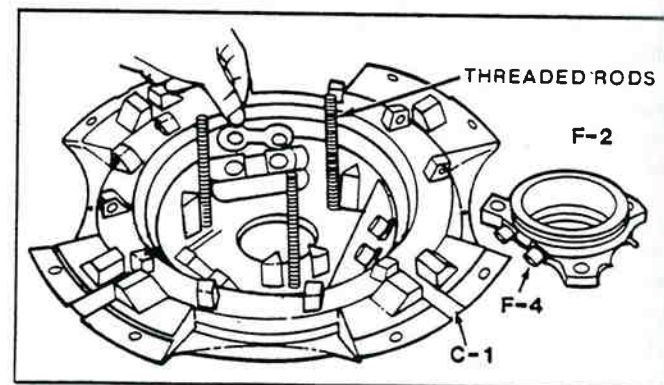

Figure 5-16. Install Spring Pivots.
3. Install three threaded rods in holes provided in flywheel ring. Place hex nut on opposite side of flywheel ring. Place spring pivots (F-4) on bosses in flywheel ring (C-1) and retainer (F-2) (figure 5-16).